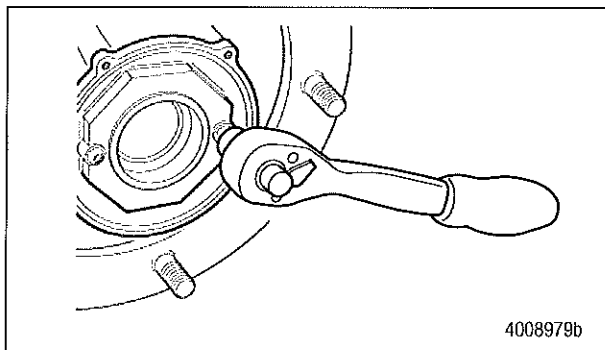

Figure 5
7. Use a 5 mm Allen-head socket and wrench to loosen and remove the two button-head screws. Thoroughly clean them and place them in a clean area. They will be reused during reassembly. Figure 5.